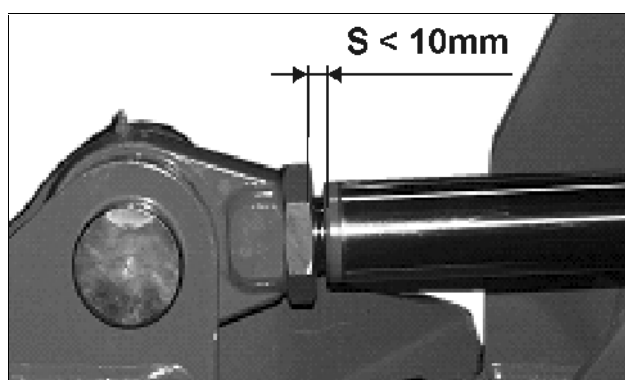

Fig. 27
- Prescribed thread reach (Fig. 27)